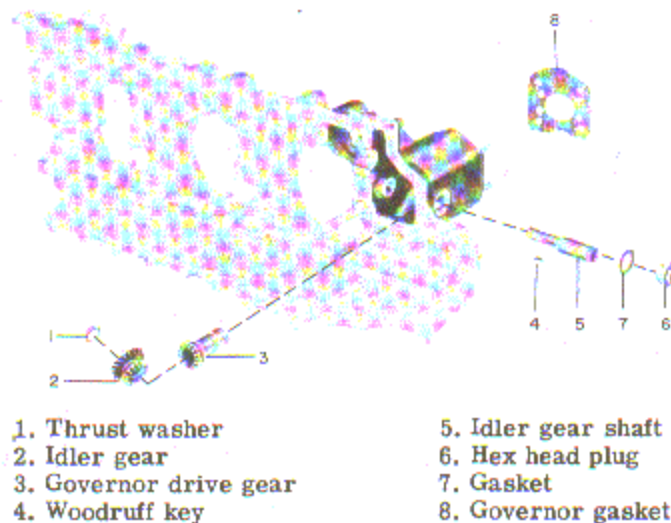

Figure 7-2. Exploded View of Propeller Governor Drive (O-540 only)
7-9. PROPELLER GOVERNOR DRIVE (O-540 ONLY). (See figure 7-2.) Loosen the lockwire and remove the hex head plug (6) from the propeller governor drive housing. Remove the idler shaft (5) through the opening in the housing, at the same time supporting the idler gear (2) to prevent it from being dropped and damaged. Pull the governor drive gear (3) from the housing on the inside.